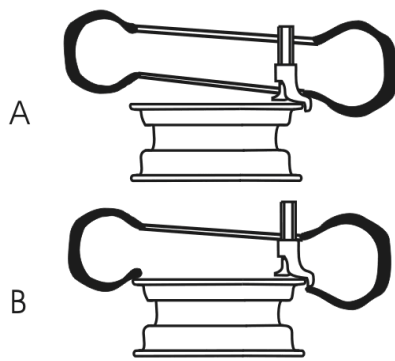

Fig. 22
- Adjust relative position between the tire and the mount/demount head to make the tire bead cross the mount/demount head. At the end of the mount/demount head, the tire bead should be placed on the mount/demount head as fig. 22-A; At the beginning of the mount/demount head, the tire bead should be placed under the ball protuberance of the mount/demount head (as fig.22-B) .